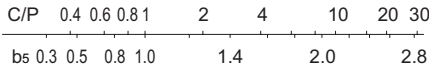

Fig.2 Material Factor
- b₅ : Material factor (see Fig.2)